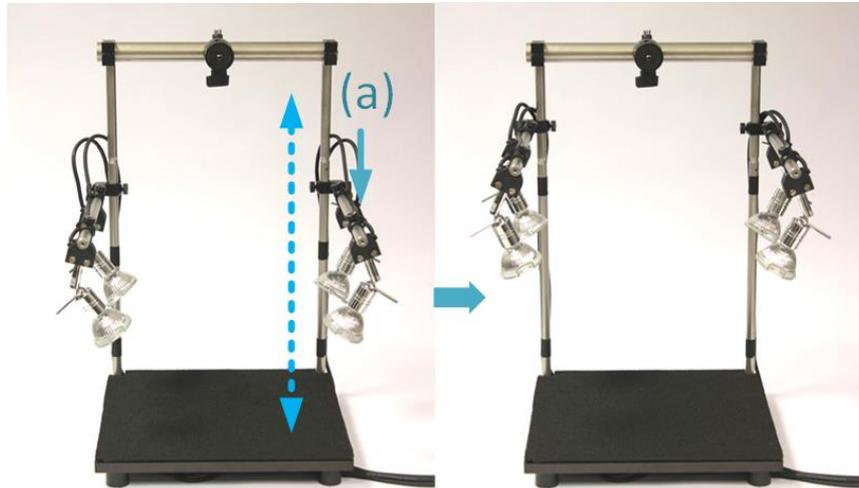

Figure 33 Adjust height of lamps depending on application needs
Step 4.5 Adjust the height of the lamp posts (Figure 33)
- a. The height of the lamps can be adjusted by moving the lamp holding posts up and down along the vertical posts (as indicated by red arrow in Figure 33)
- *The recommended height is shown in Figure 33. You can choose a suitable height depending on your application needs.*